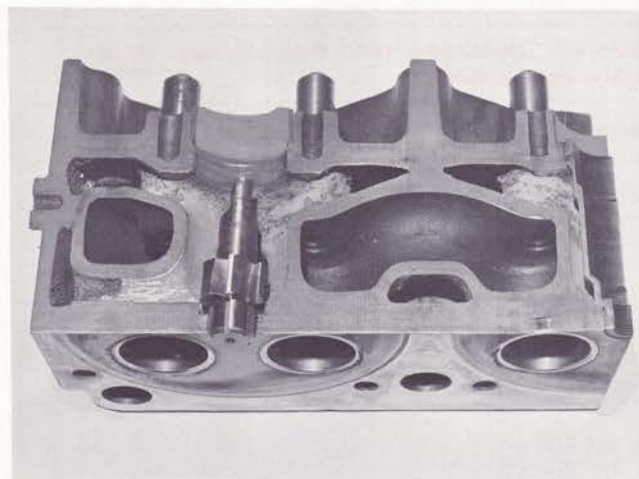

Fig. 4-13. Cleaning spark plug adapter seat
3. Using a piloted cutter, clean up spark plug adapter seating areas. Fig. 4-13.